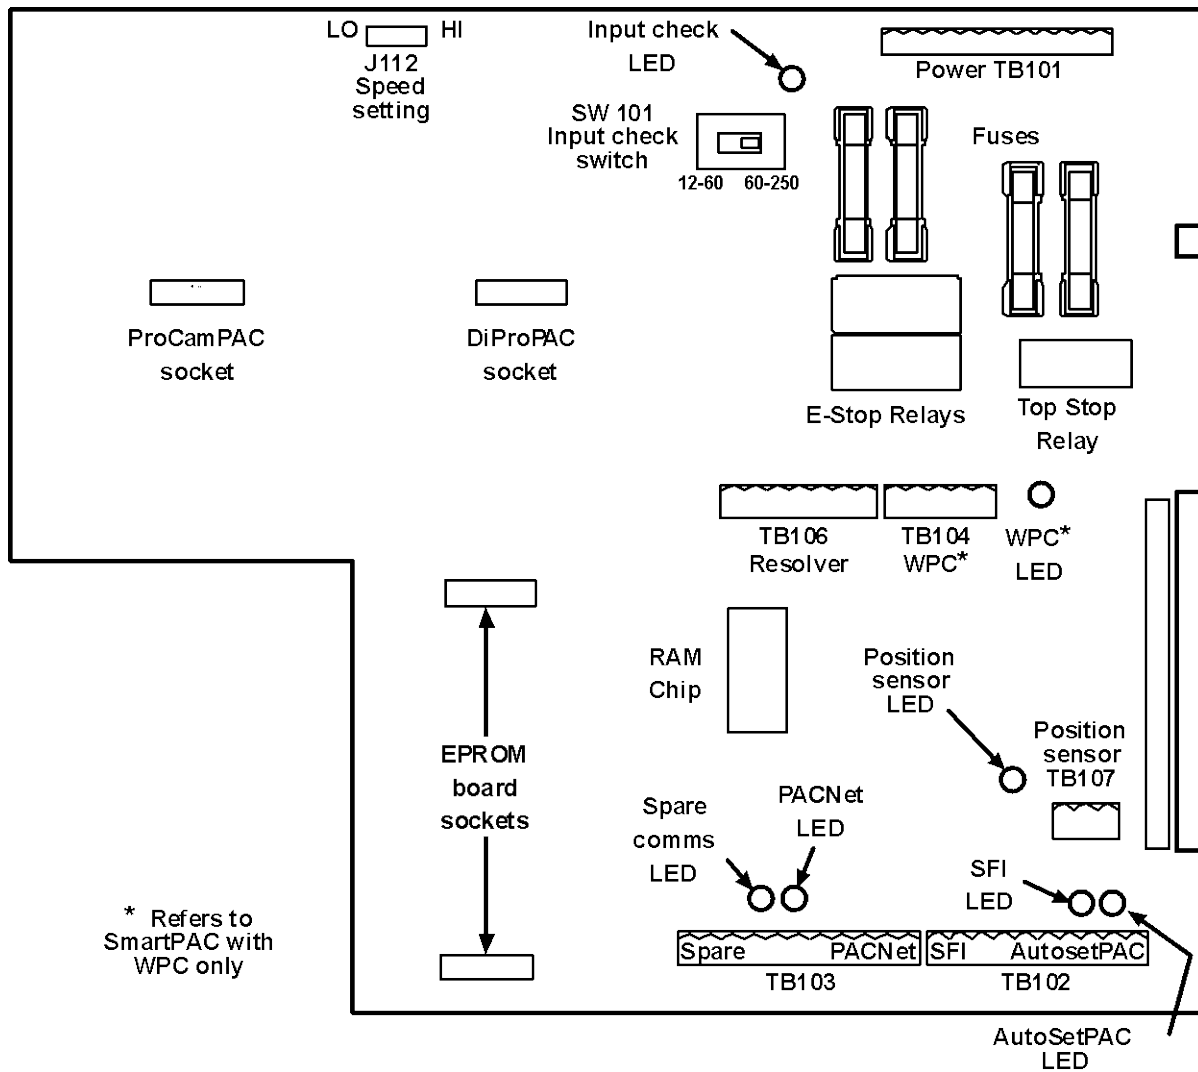

Figure 2-3. Location of components on SmartPAC processor board
Install the SmartPAC firmware board in the correct location on the main board as shown in Figure 2-3 of this chapter.
3. Look inside SmartPAC and locate the firmware board, which is located toward the bottom left of the main processor board (Figure 2-3). Take note of its orientation.
3. Locate terminal TB102 on the SmartPAC processor board (see Figure 2-3). Next, find the RS-232 port at the bottom of the feed controller.